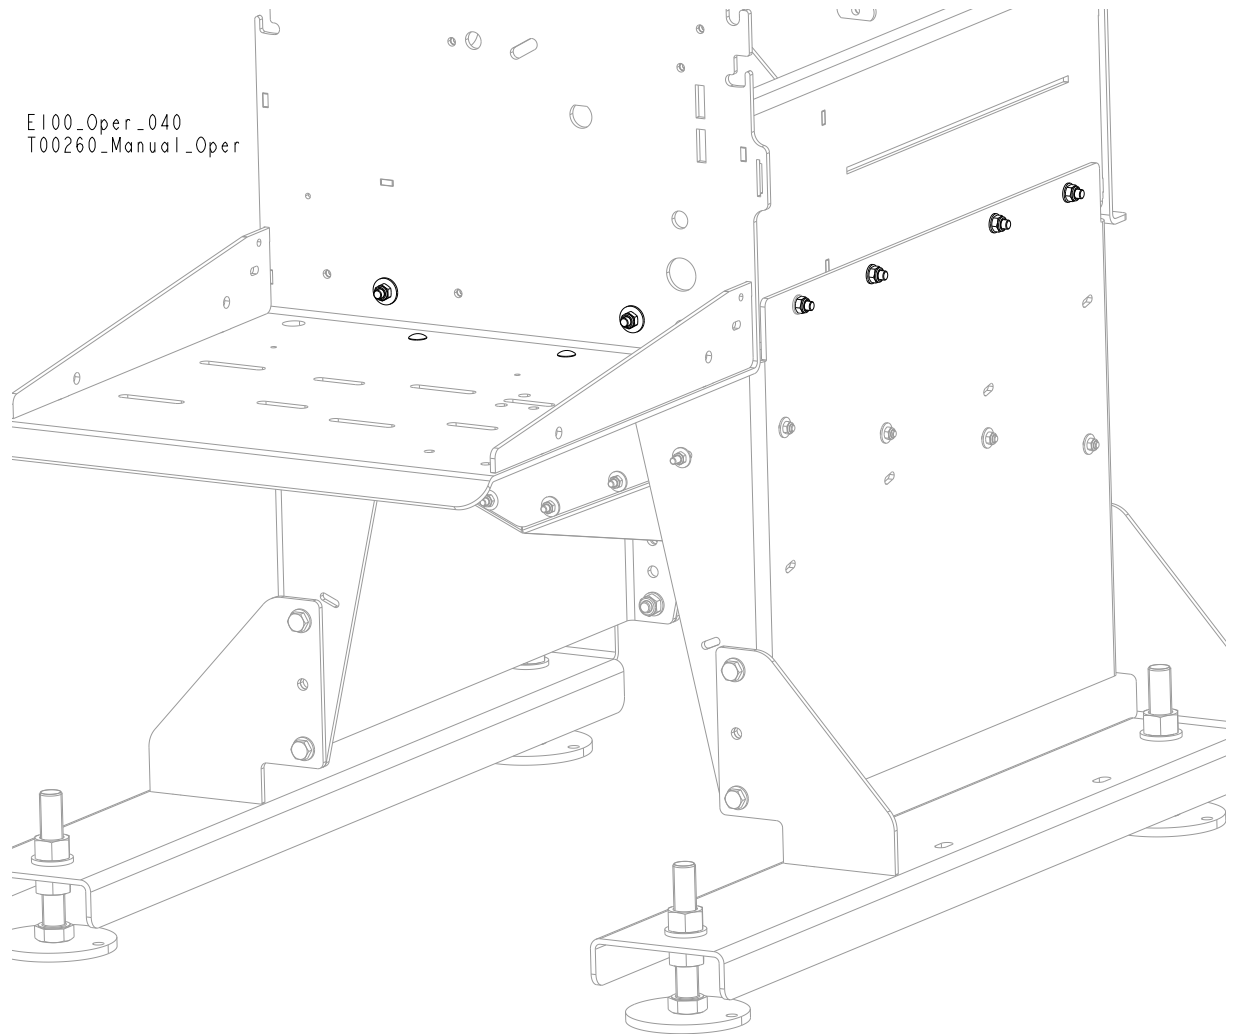

FIG. 3-7
See Figure 3-7.
- Place a flat bar (maximum height: 30 mm, minimum length: 500mm) against each blade and measure the distance between the blades as shown below. The distances A and B should be equal. If they are different, adjust the movable blade in the horizontal plane using the rods shown in Figure 3-7. To do this, loosen the nuts (C) on the rod, turn the rods and tighten the nuts.